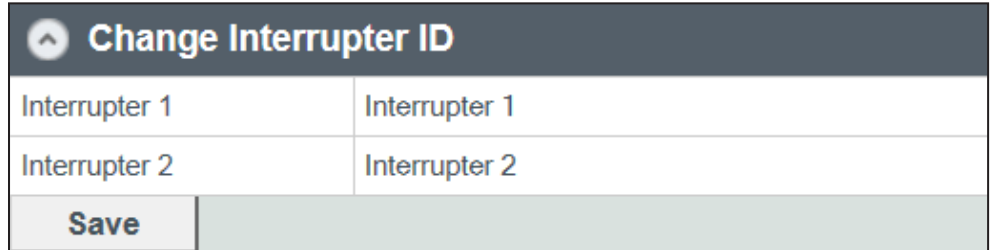

Figure 16. The Change Interrupter ID menu.
- STEP 1.** Select the appropriate interrupter field and type in the desired name. See Figure 16. Interrupter names can be up to 16 characters excluding special characters such as “/, &, #, \$, and :”. This name will be propagated throughout the **Overcurrent Control** settings and will change the name in the **Selection** menu, Event logs, *Trip test* screen, and *Status* screen.